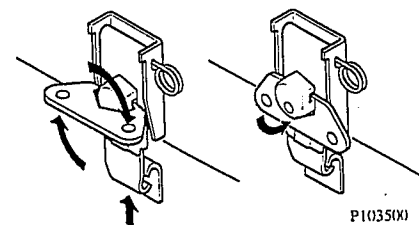

FIGURE 5: LOCKING THE LATCH
7) Engage the latch and turn key fully clockwise (to the right). Flip the key down to lock (see Figure 5).